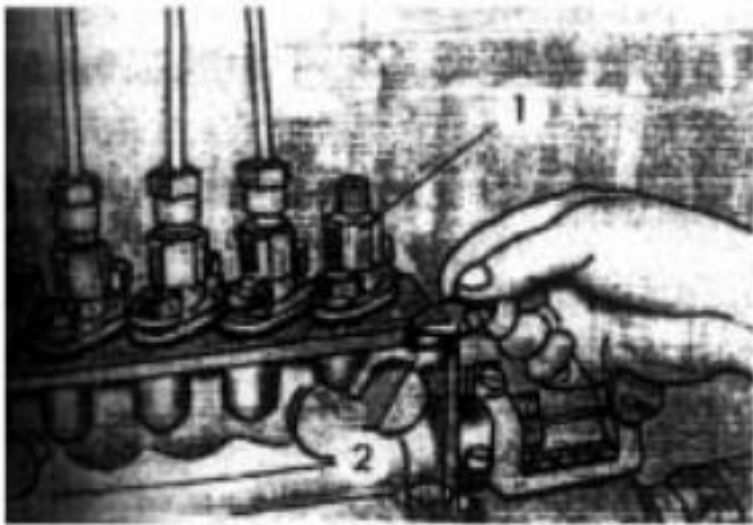
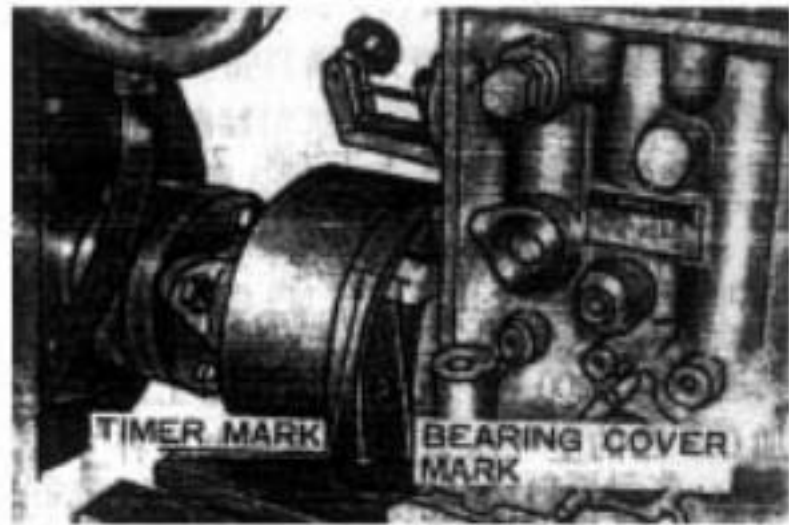

Fig. 2-49 Adjustment of fuel supply timing
Fig. 2-50 Fuel supply timing scale lines
- The adjustment of fuel supply timing is made through adding and reducing the number of timing shims. As shown in Fig. 2-49, remove the branch pump assembly. If the plunger pre-travel is smaller than the specified value, add timing shims below the flange of the branch pump, and vice versa. Make sure that the O-ring is intact when the branch pump is reinstalled. Upon the completion of the adjustment of the fuel supply timing of the branch pump of the first cylinder, put the pump at the position of starting fuel supply of the branch pump of the first cylinder (i.e. the position of the pre-travel of the plunger), as shown in Fig. 2-50, check and make sure that the fuel injection pump fuel supply timing scale lines are aligned properly. Otherwise, new aligned timing scale lines should be imprinted on the timing device and the fuel injection pump casing, for future check and adjustment of the fuel injection timing of the engine.